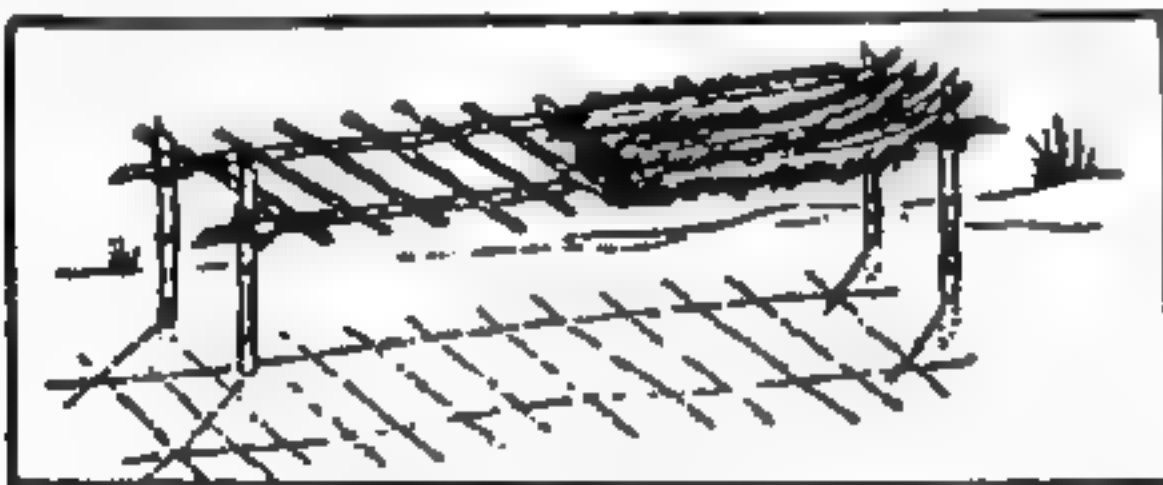

Figure 6. Bamboo bed.
(3) Bed. Don't sleep on the ground; make yourself a bed of bamboo or small branches covered with palm leaves (see figure 6). A parachute hammock may serve the purpose. You can make a crude cover from tree branches or leaves; even the bark from a dead tree is better than nothing.